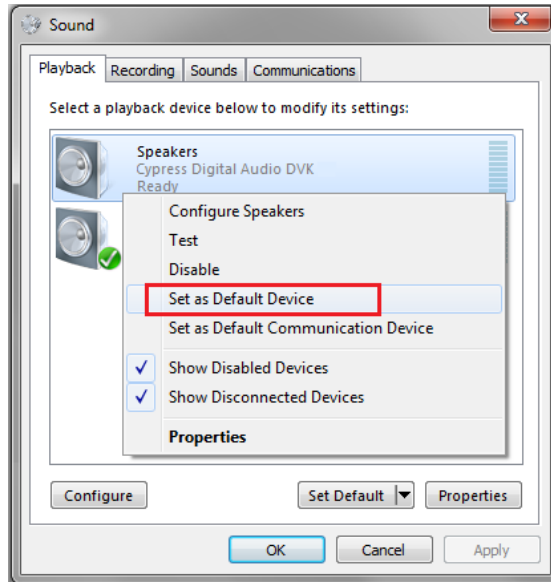

Figure 20: Setting Cypress Digital Audio DVK as Default Device
- Open *Windows Media player* / *iTunes* and play any song of your choice. (Alternatively, the *Test* option shown in Figure 20 can also be used to quickly test the functionality of audio out via pioneer kit)